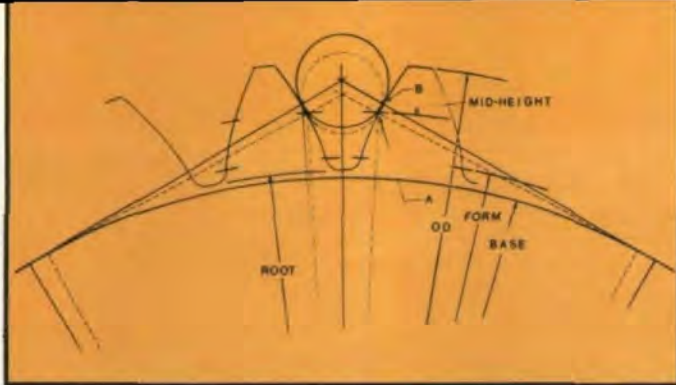

Fig. 1—In selecting the measuring ball size for a full depth gear tooth, the next standard increment larger than the exact size is usually satisfactory.
Fig. 1 illustrates the process of selecting the ball size for measuring a full depth gear. The dashed lines are the exact ball size as determined by Equation (4). Point A is the ball contact point for this ball and is chosen midway between the outside circle and the form circle by Equation (2). The solid lines represent the standard ball, and Point B is the ball contact point for the standard ball. Note that the standard ball clears the root of the gear tooth, and the radius over the ball